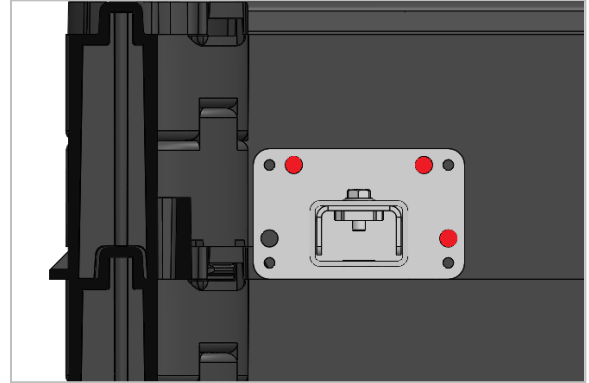

Figure 10
- Having positioned the 'cross brace', mark out the hole centres highlighted in figure 10.